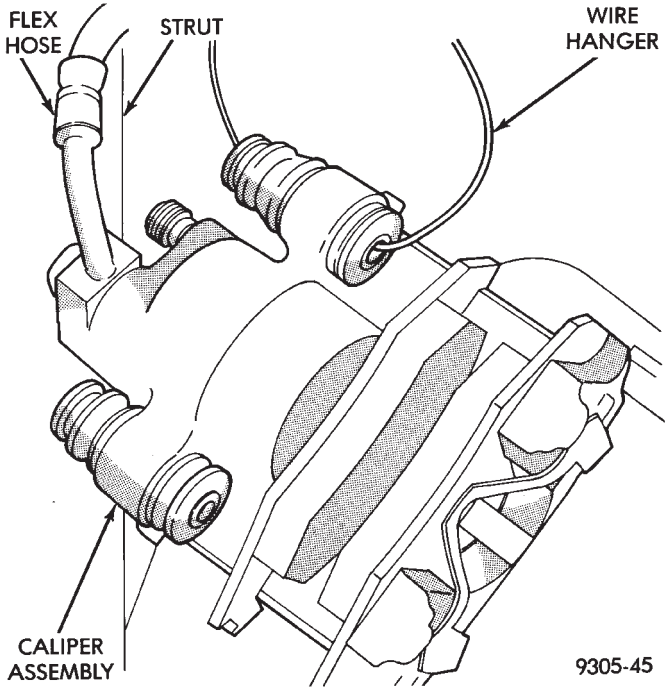

Fig. 99 Storing Caliper
(5) Support caliper from rear strut to prevent weight of caliper from damaging the flexible brake hose (Fig. 99).